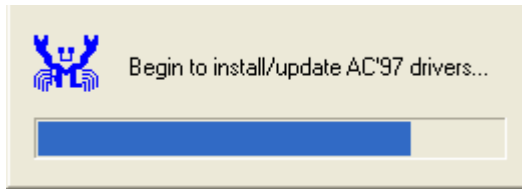

Figure 7-25: AC'97 Driver Installation
Step 10: The driver installation begins. See Figure 7-25.